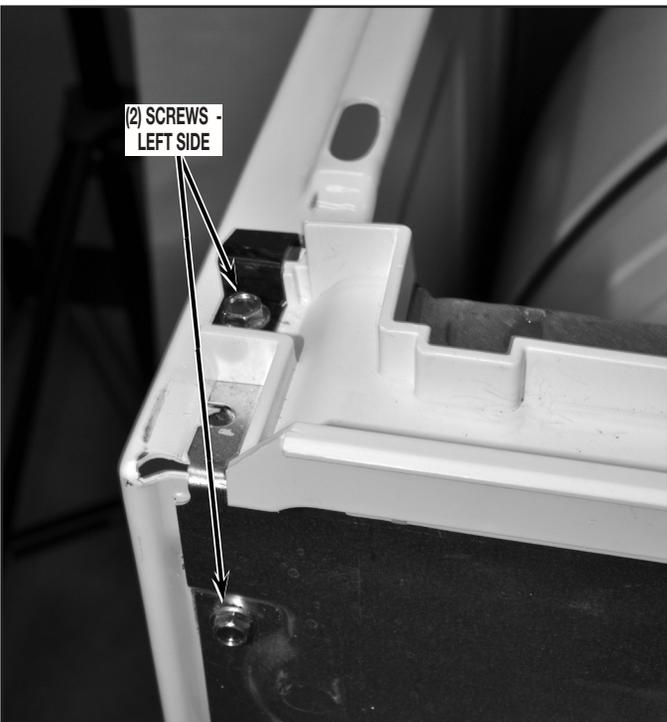

FIGURE 10A
14. Next remove console mounting bracket by removing two (2) screws securing bracket to cabinet left side panels, two (2) screws from right side panel and one (1) screw from central control bracket. Slightly lift assembly and remove from dryer. See *Figure 10A and 10B*.